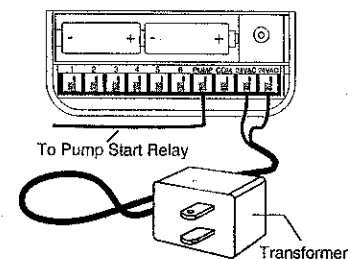

Figure 21: Connecting Pump Start and Transformer
- ◆ Plug in transformer [See Figure 21].